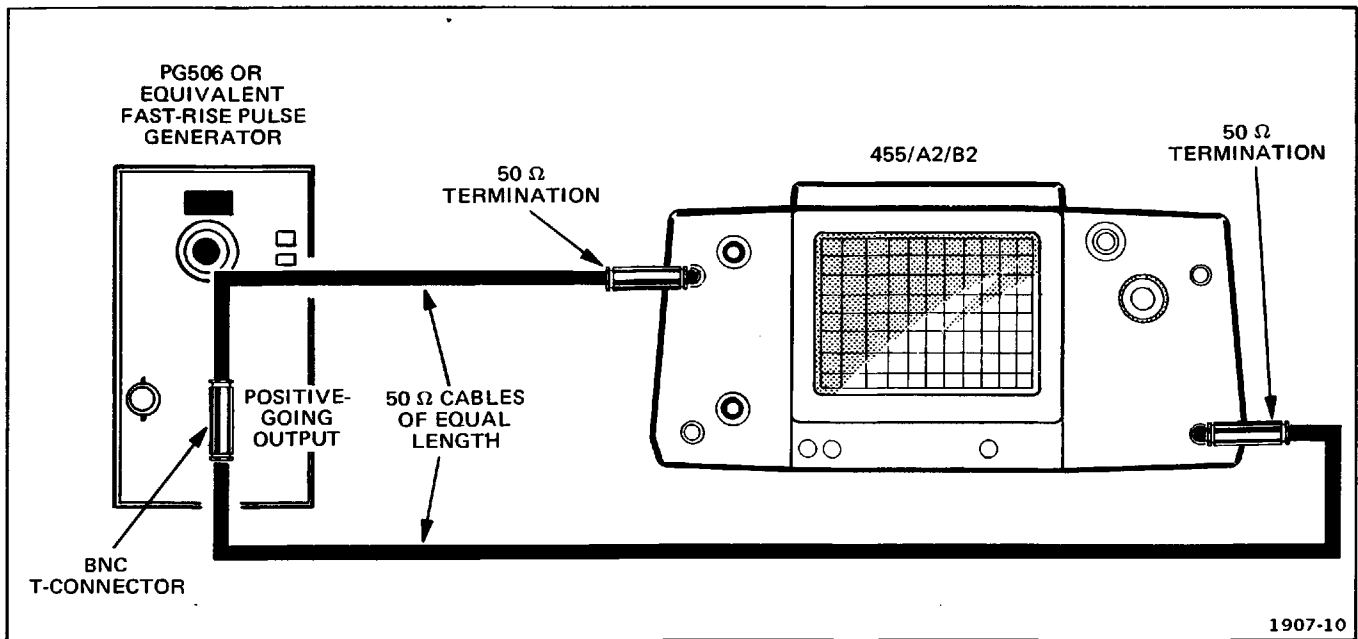

Fig. 3-2. Fast-rise pulse generator test setup.
- b. Connect fast-rise pulse generator as shown in Fig. 3-2.